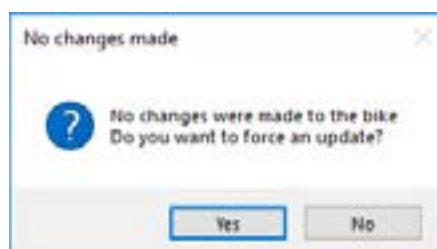

Figure 3.29 Auto-update – No changes
- Perform an auto-update to restore the default factory settings to the control unit even if the diagnostics do not require it. If you decide you want to reimport the XML configuration file, click on “Yes” (Fig. 3.29) and complete steps 1, 3 and 4 in the update process.